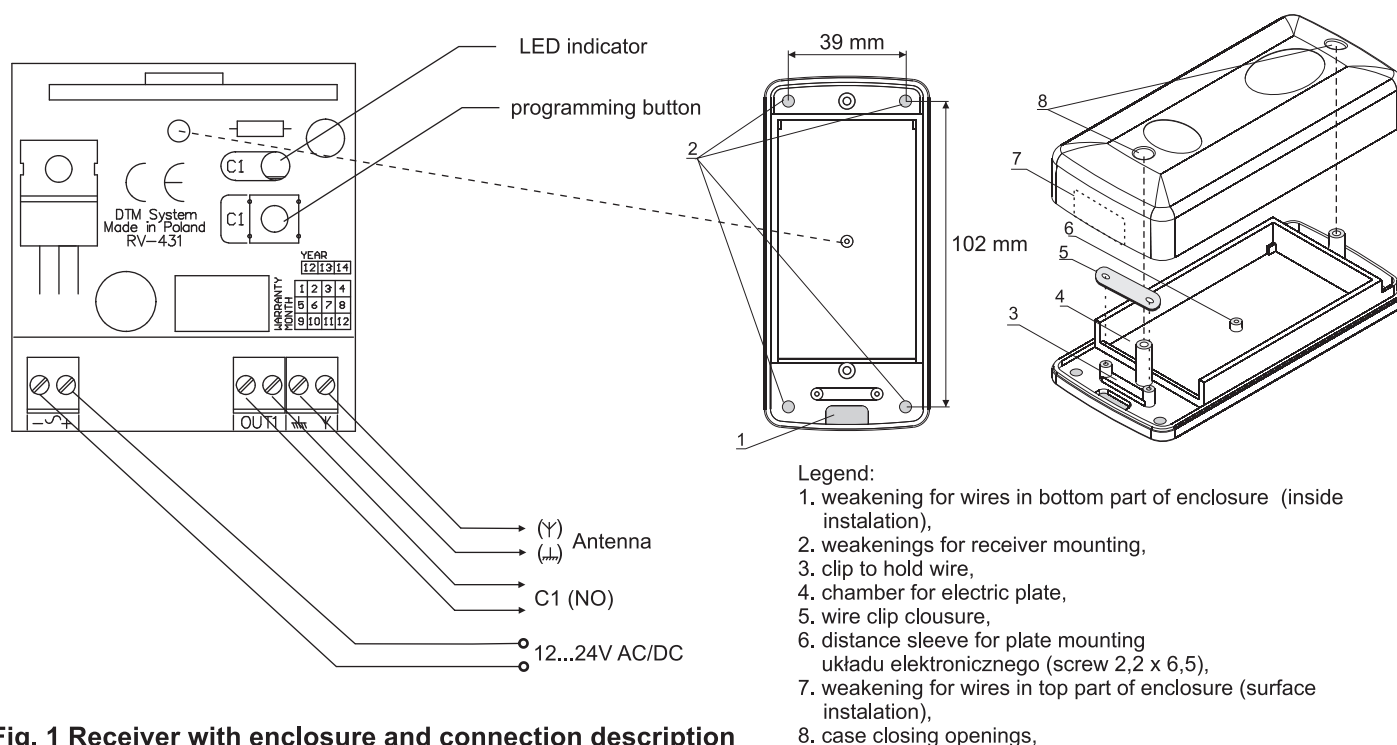

Fig. 1 Receiver with enclosure and connection description
Electric connection must be done according to **fig.1**, which shows receiver with outputs description. Connector has plugged-in wire-antenna. Also additional antenna can be used. Antenna should be switched into connectors -(Y) middle cable conductor, (L) cable screen by concentric wire of 50 Ω impedance.